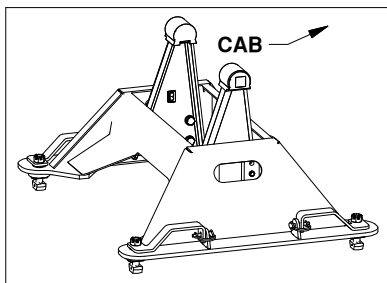
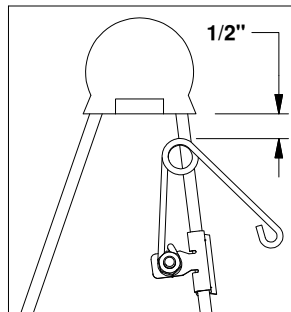

Figure B3: View of base.
Figure B4: Driver side pivot arm.
- Attach kit.** Locate the flange which will be closest to the truck cab on the driver side pivot arm, see Figure B3. The clip should be placed so that when the springs coil is in the line with the edge of the arm there will be 1/2" of clearance between the bottom of the rubber bumper and the top of the spring, see Figure B4. Drive the clip securely onto the flange with a hammer.